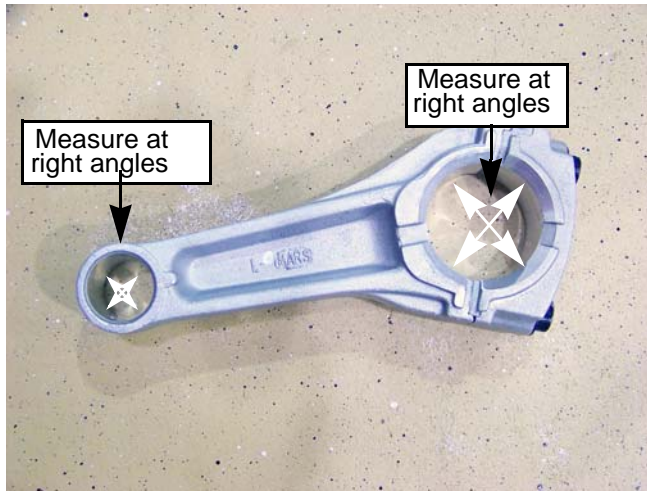

Figure 10.15
3. Measure the inside diameter of the connecting rod at both ends and compare the measurements to those listed in the chart at the end of this chapter. See Figure 10.15.